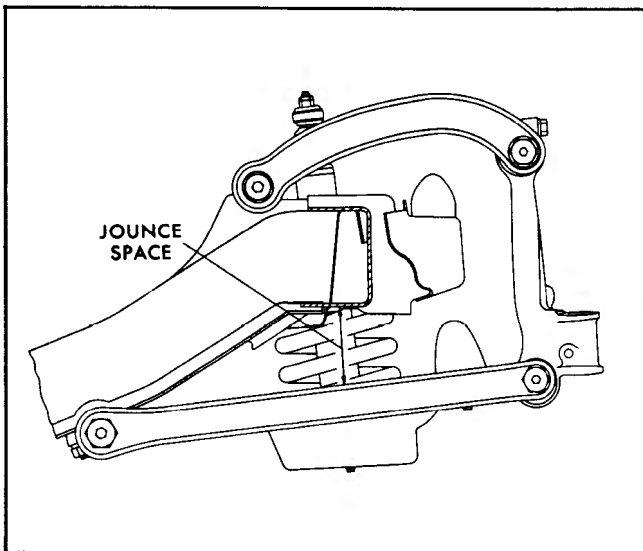

Fig. 3-9 Jounce Space Measurement
8. See that car sets level by measuring vertical distance from top of lower control arm to underside of frame at a point directly in line with shock absorber, as shown in Fig. 3-9. This is commonly called front end "jounce" space.